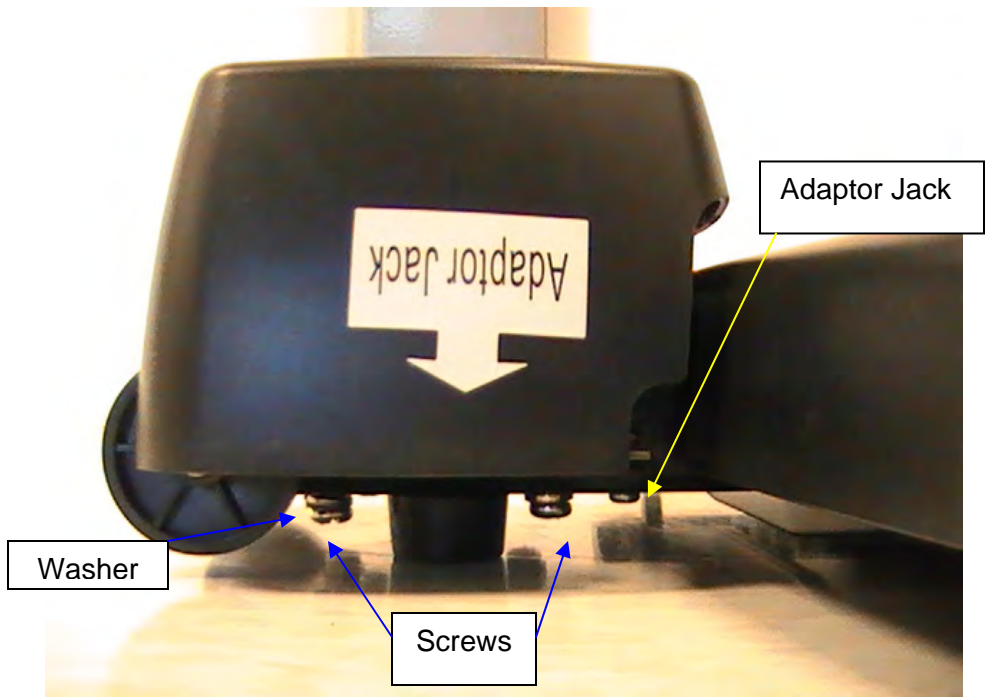

Figure 7
1. Connect the AC adapter (not included) into the adaptor jack on the scale platform **C** (see Figure 7).